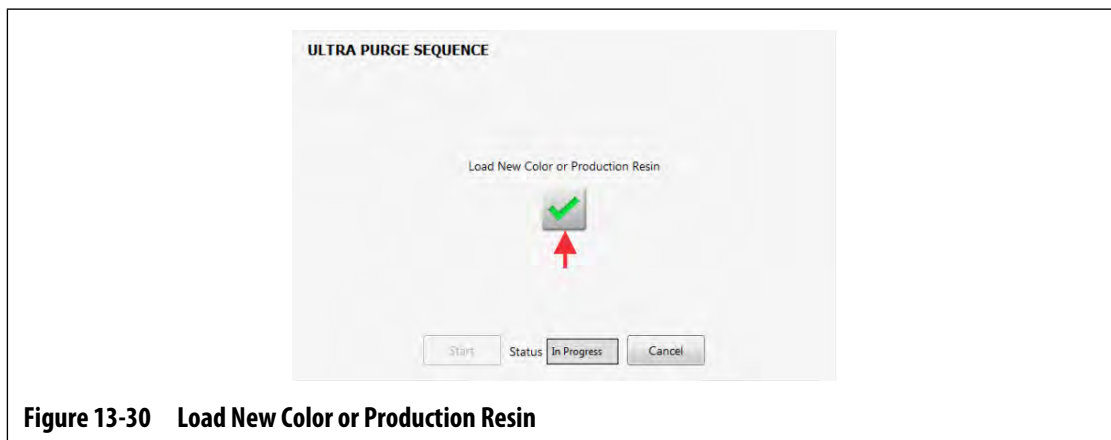

Figure 13-30 Load New Color or Production Resin
16. Load the new color or production resin into the IMM (Figure 13-30).